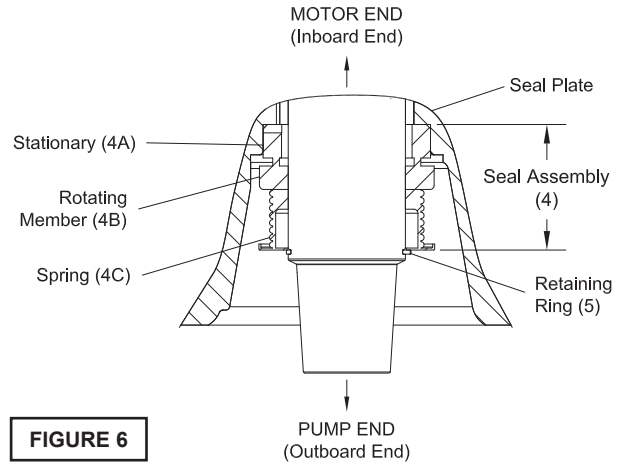

FIGURE 6
To expose outer shaft seal (4) for examination, remove Impeller and Volute per Section E-2.1. Set motor assembly (1) in the inverted position to prevent loss of oil. Remove snap ring from motor shaft, then retaining ring (5), spring (4C) and rotating member (4B) from shaft, See Figure 6. Examine all seal parts and especially contact faces. Inspect seal for signs of wear such as uneven wear pattern on stationary members, chips and scratches on either seal face. **DO NOT** interchange seal components, replace the entire shaft seal (4). If replacing seal, remove stationary (4A) from mounting plate by prying out with flat screw driver.